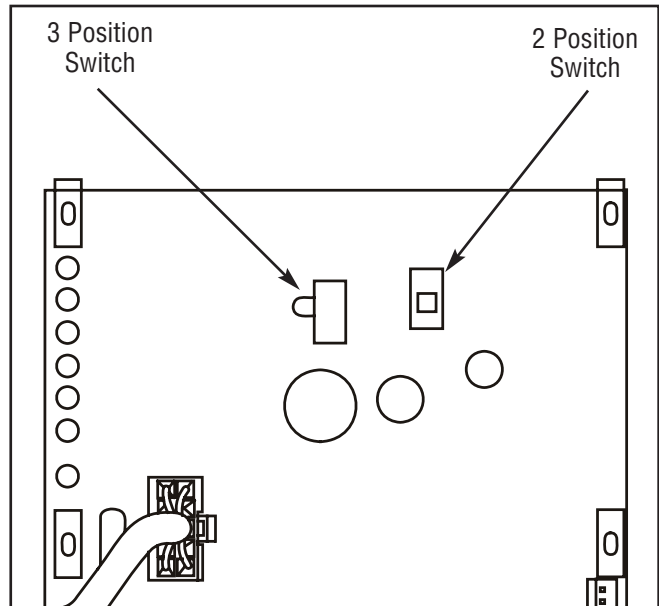

Figure 3 — Power Management System Control Board
- Place the 2 position sliding switch on the control module in the NG or LP position (Figure 3), whichever is appropriate for the installed home standby system.
- Place the 3 position sliding switch on the control module to match the rating of the home standby system (Figure 3).